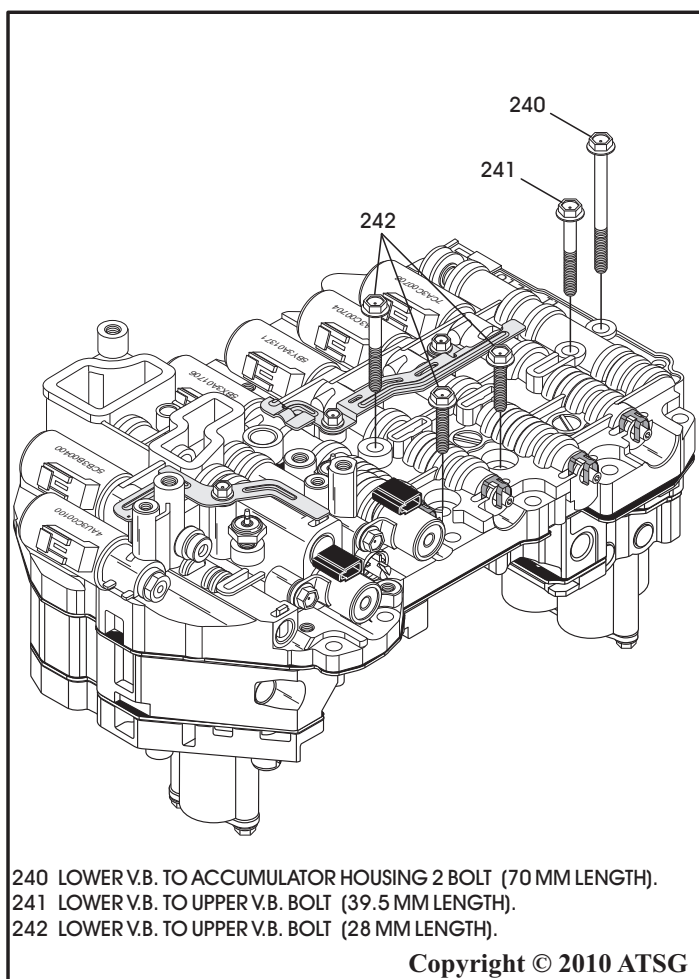

Figure 166
44. Turn the valve body assembly over, as shown in Figure 166, and install the five lower valve body to upper valve body retaining bolts.